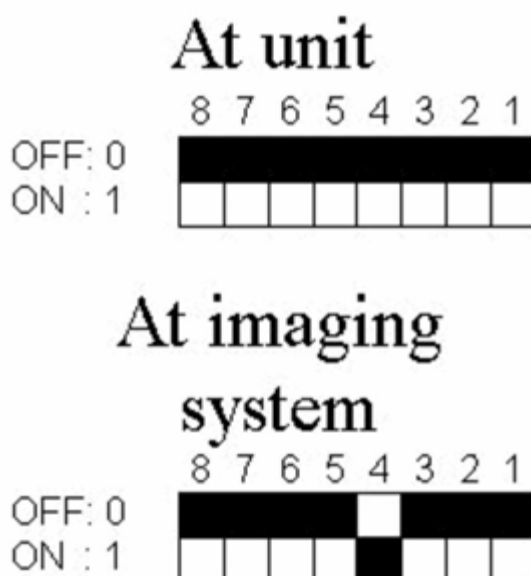

Fig. 11: Switch coding - tableside control
- To do this, open the tableside control unit by removing the screws on the back side and perform the programming according to the specified switch coding, see \(Fig. 11 / p. 24\).